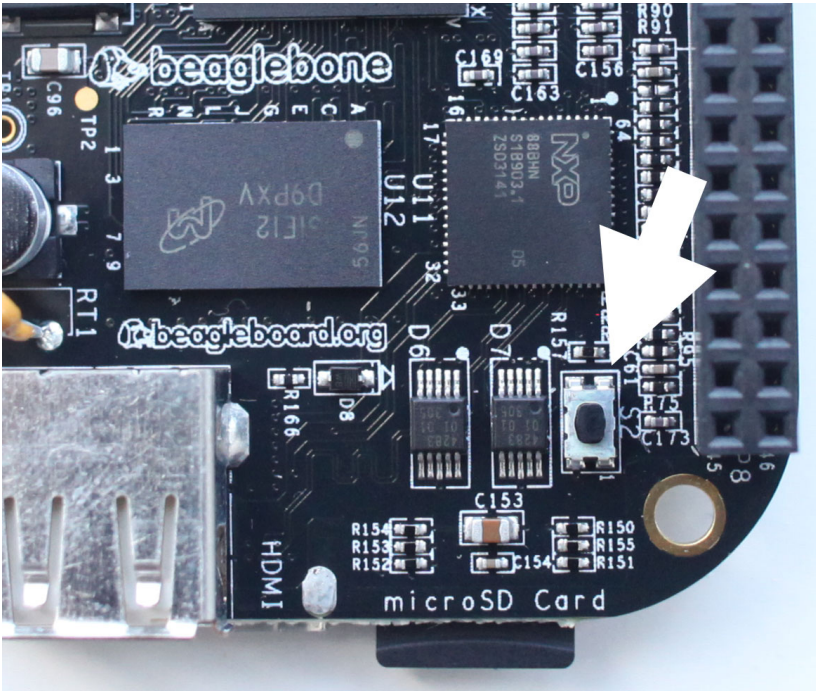

Figure A-1. *The boot button on the BeagleBone Black*
2. While holding the boot button (Figure A-1), connect the BeagleBone to power and keep holding the boot button for about fifteen seconds.